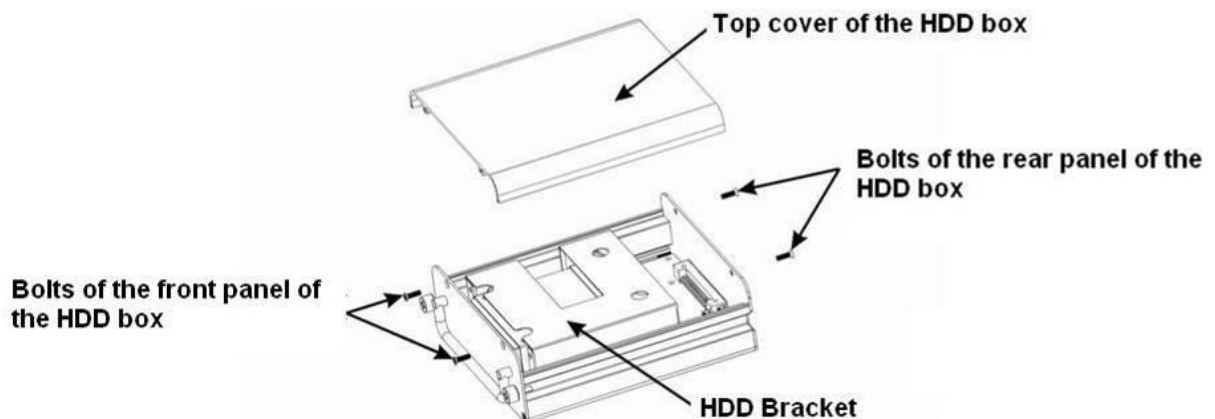

Figure 3-7
7) After you installed the HDD bracket. Please refer to Figure 3-7 to put the HDD box top cover back and secure the bolts of the front panel and rear panel of the HDD box. Now the HDD installation is complete.